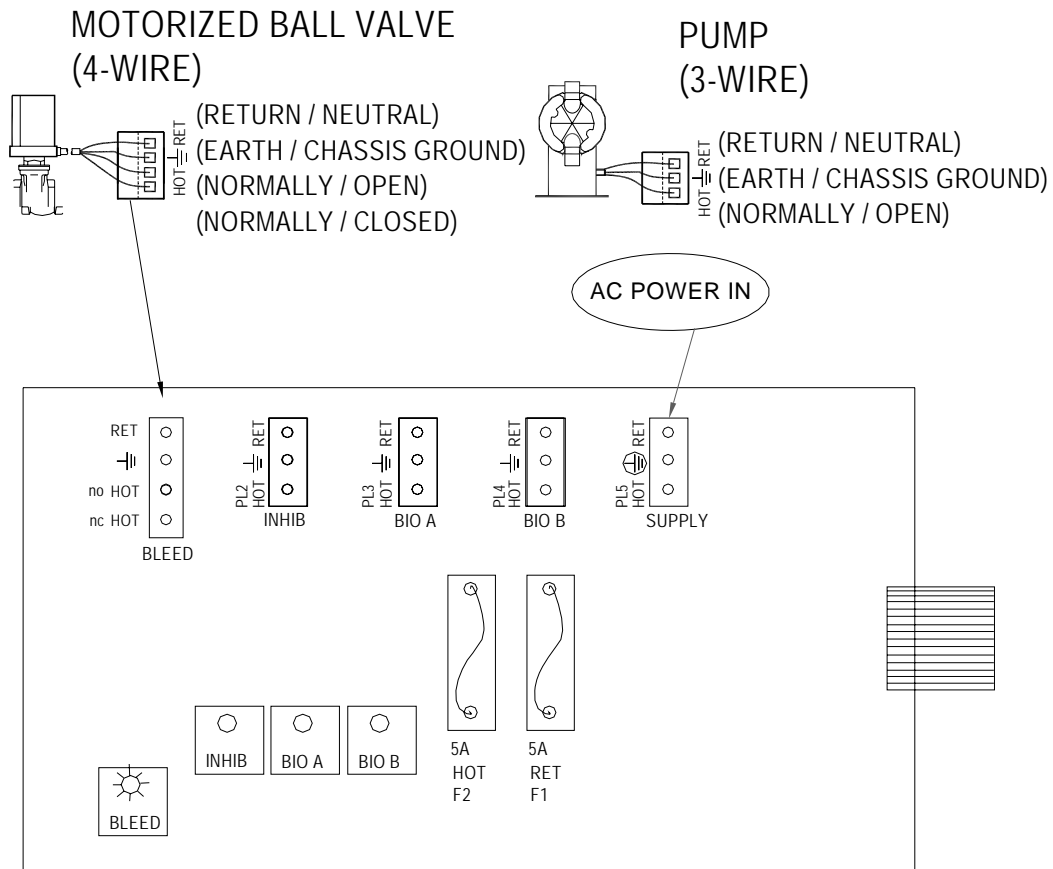

Fig. 6
The *MicroVision* electronic input circuitry is fuse protected on both the hot and neutral inputs using a replaceable five amp fuse (*Fig .6*).
Conduit controllers have openings for conduit connections for hard wiring. (See Fig. 6) for input and output power connections. Use only 18 AWG (1,2 mm2) stranded wire for conduit power and load connections. Supply (input) power is connected via **PL5** located on the relay board (Fig. 6). The top part of this terminal block is removable to allow for easy access to the connector's three (3) screws.
The low voltage connections are found on the low voltage (right side) board (*Fig. 6*). Use 22-24 AWG (.76 mm2) wire for: flow switch, drum levels, dry alarm, and water meter connections. These signal wires must be run separate from AC power lines.